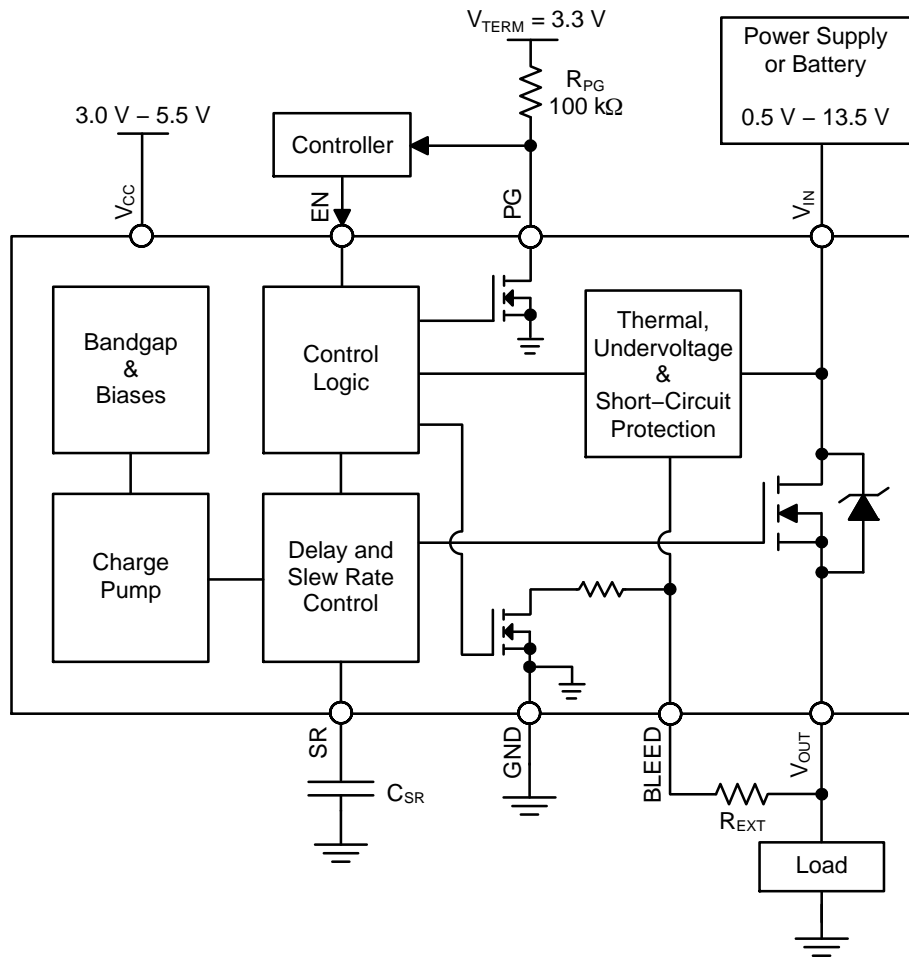
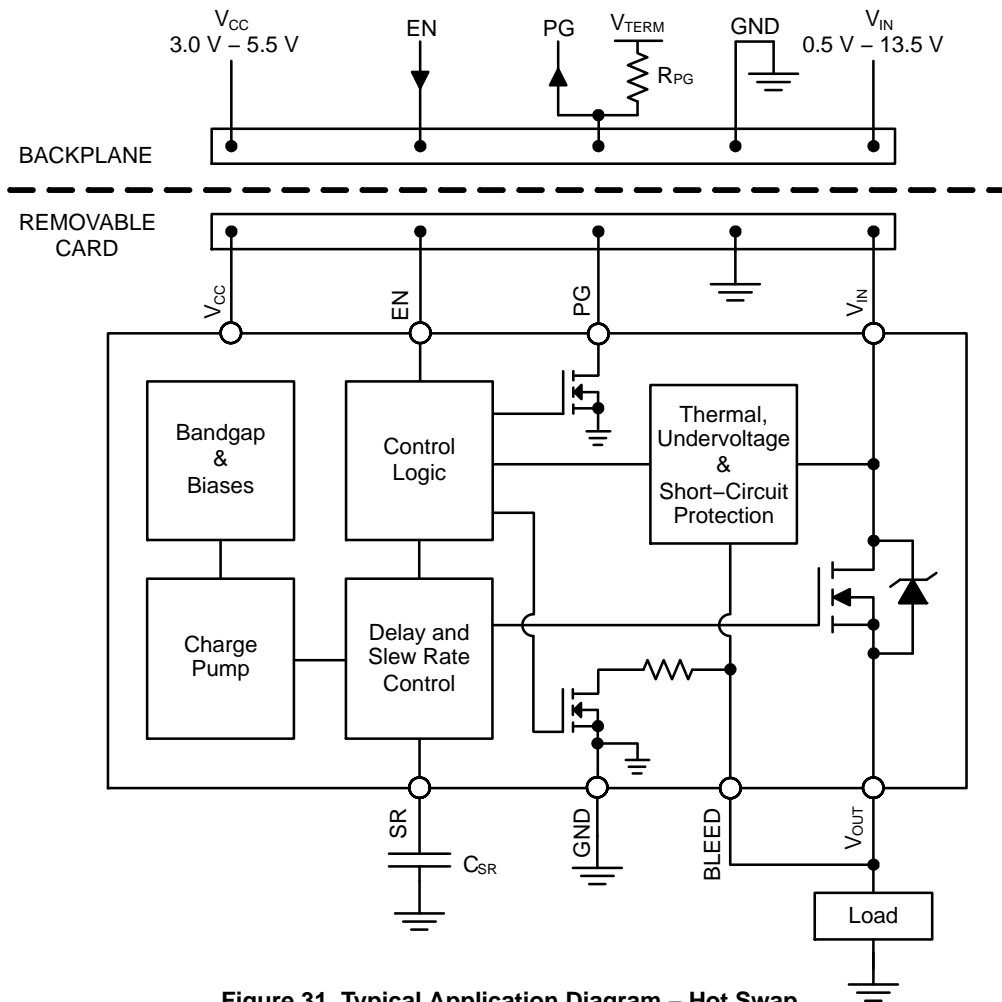

Figure 30. Typical Application Diagram – Load Switch
Figure 31. Typical Application Diagram – Hot Swap
It is required that the BLEED pin be connected to  $V_{OUT}$  either directly (as shown in Figure 31) or through an external resistor,  $R_{EXT}$  (as shown in Figure 30).  $R_{EXT}$  should not exceed 1 k $\Omega$  and can be used to increase the total bleed resistance.
The NCP45540 devices have a power good output (PG) that can be used to indicate when the gate of the MOSFET is fully charged. The PG pin is an active–high, open–drain output that requires an external pull up resistor,  $R_{PG}$ , greater than or equal to 1 k $\Omega$  to an external voltage source,  $V_{TERM}$ , compatible with input levels of other devices connected to this pin (as shown in Figures 30 and 31).
The slew rate can be decreased with an external capacitor added between the SR pin and ground (as shown in Figures 30 and 31). With an external capacitor present, the slew rate can be determined by the following equation:
Once active, the circuitry monitors the difference in the voltage on the  $V_{IN}$  pin and the voltage on the BLEED pin. In order for the  $V_{OUT}$  voltage to be monitored through the BLEED pin, it is required that the BLEED pin be connected to  $V_{OUT}$  either directly (as shown in Figure 31) or through a resistor,  $R_{EXT}$  (as shown in Figure 30), which should not exceed 1 k $\Omega$ . With the BLEED pin connected to  $V_{OUT}$ , the short–circuit protection is able to monitor the voltage drop across the MOSFET.